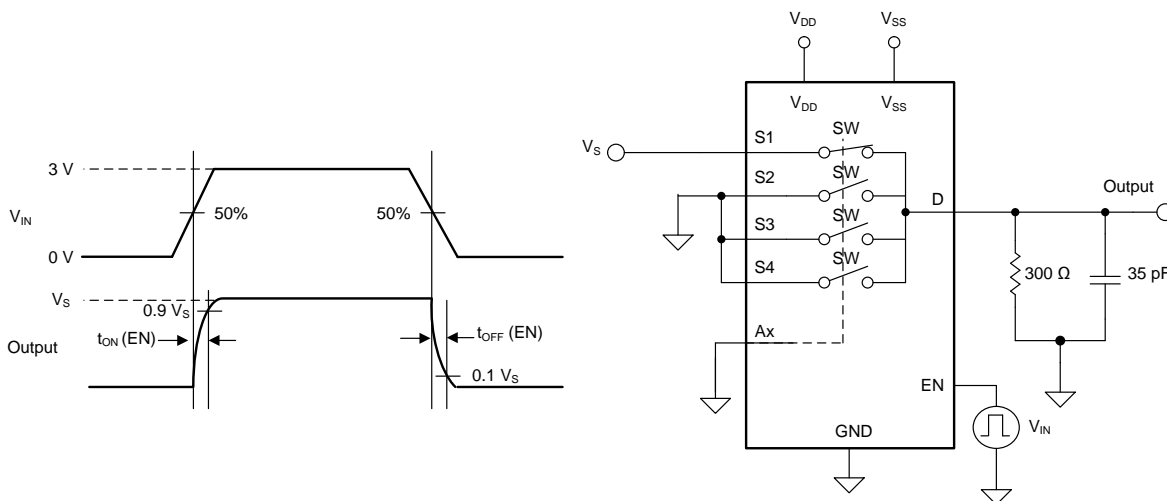

Figure 22. Turn-On and Turn-Off Time Measurement Setup
Turn-on time is defined as the time taken by the output of the TMUX6104 to rise to a 90% final value after the enable signal has risen to a 50% final value. Figure 22 shows the setup used to measure turn-on time. Turn-on time is denoted by the symbol $t_{ON (EN)}$.
Turn off time is defined as the time taken by the output of the TMUX6104 to fall to a 10% initial value after the enable signal has fallen to a 50% initial value. Figure 22 shows the setup used to measure turn-off time. Turn-off time is denoted by the symbol $t_{OFF (EN)}$.